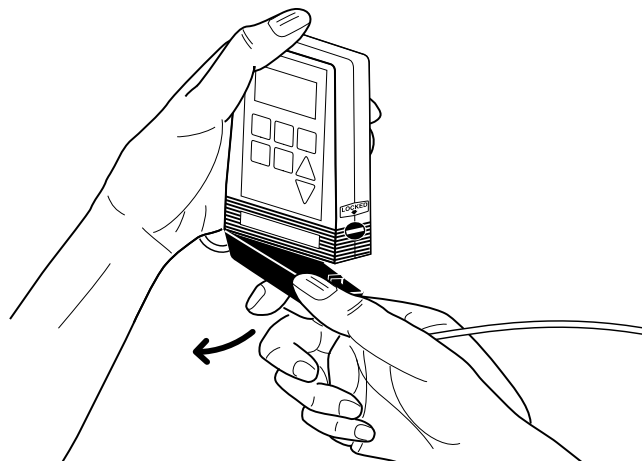

Figure 6. Disengage the administration set plate.
- Disengage the set plate hooks from the pump's hinge pins. (See Figure 6.)